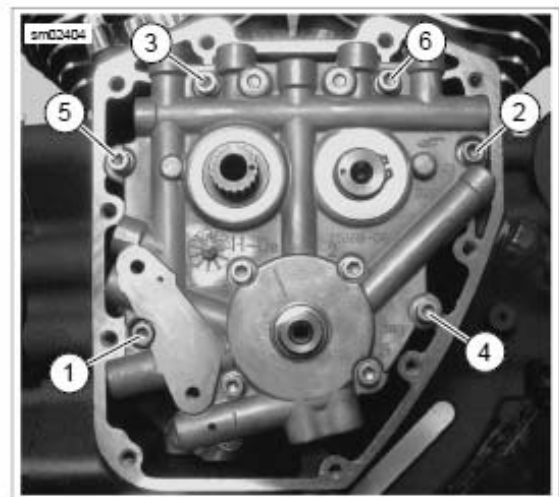

Figure 3-111. Cam Support Plate Torque Sequence
13. See Figure 3-111. Install cam support plate screws. Tighten to 90 in-lbs in the sequence shown.